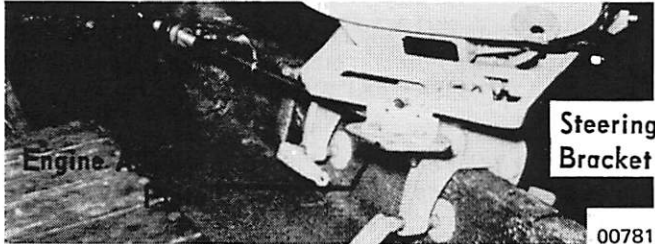

Figure 1. Universal Ride-Guide Attaching Kit
1. Replace bayonet-type attaching pin in steering bracket, which comes with engine (except Mercury, which does not require), with cap screw and nut of correct size from kit. (Figure 1)